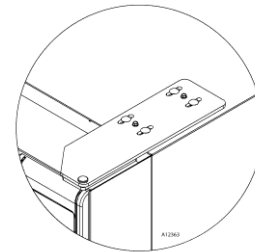

Fig. 5
2. Remove the Top Hinge: Remove the two (2) small locating screws and four (4) large bolts and nuts holding the Top Hinge Plate to the cabinet (See Figure 5). Save the mounting hardware for reassembly.